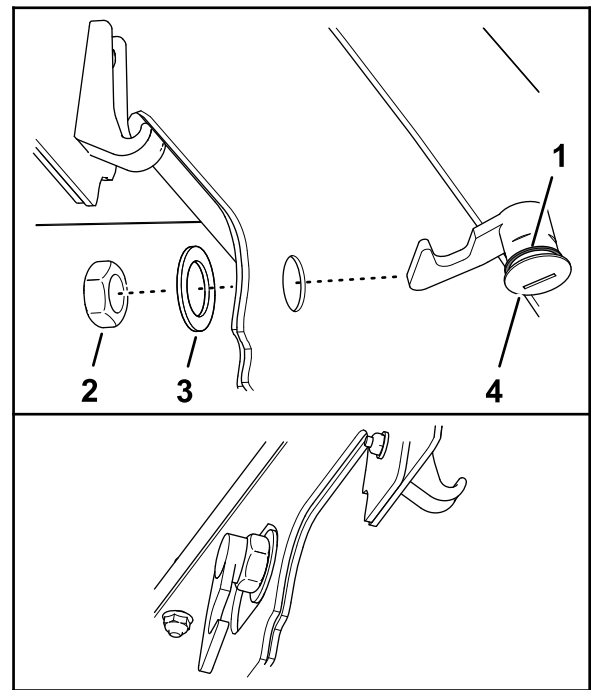

Figure 36
3. Ensure that the seal is assembled to the hood lock (Figure 36).